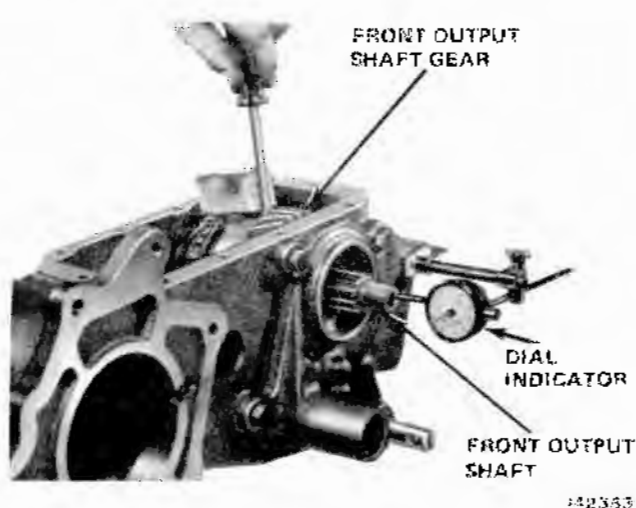

Fig. 8-14 Checking Output Shaft Bearing Adjustment
(1) If removed, slide right shift rod partially into case. Place right shift fork on rod with bolt hole aligned with countersunk hole in rod. Install shift rod fork bolt. Tighten bolt (refer to Torque Specifications).
(2) Place right shift fork in proper position in case. Set front output shaft sliding gear in shift fork with slot in gear facing rear of case.
(3) Install rear cone and roller on front output shaft.
(4) Insert front output shaft gear and thrust washer in place and slide output shaft through both gears.
(5) Install front thrust washer.
(6) Install front cone and roller assembly on output shaft.
(7) Install front and rear bearing cups.
(8) Install shift rod housing gasket, housing, lockwashers, and bolts. Tighten bolts (refer to Torque Specifications).
(9) Install rear bearing cover shim set, cover plate, lockwashers, and bolts. Tighten bolts (refer to Torque specifications).
(10) Use a dial indicator to check output shaft bearing adjustment (fig. 8-14).